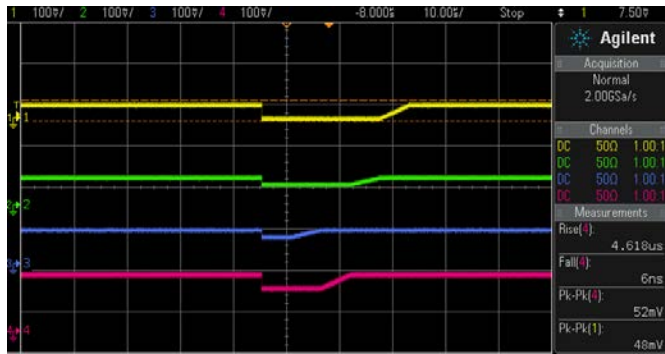

Figure 5 : Example 2 Result
- The outputs from J2, J1, J4 and J5 will be displayed as shown in Figure 5